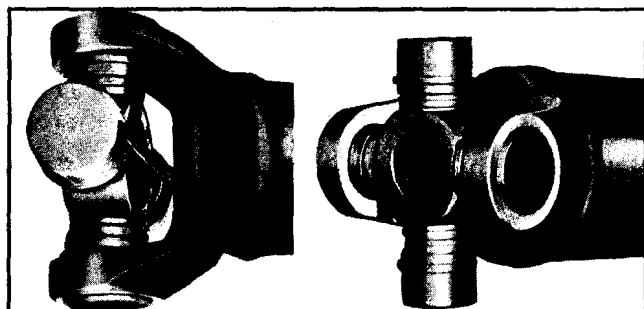

Fig. 4C-1 Bearings Held in Place by Tie Wire
3. If bearing tie wire has been removed, use suitable rubber band or tape to hold bearings onto journal, thus preventing loss of bearing rollers while rear universal joint is being disconnected (Fig. 4C-1).